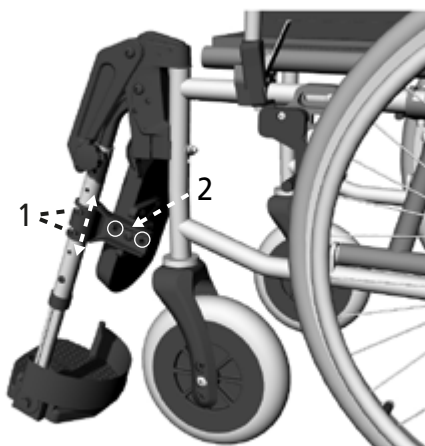

Fig.43
1. To adjust the height loosen the 2 hexagonal screws (1, Fig.43) in the calf pad holder.
3. To adjust the depth of the calf pad, loosen the hexagonal screw (2, Fig. 43) and use one of the remaining two drill holes to attach it.